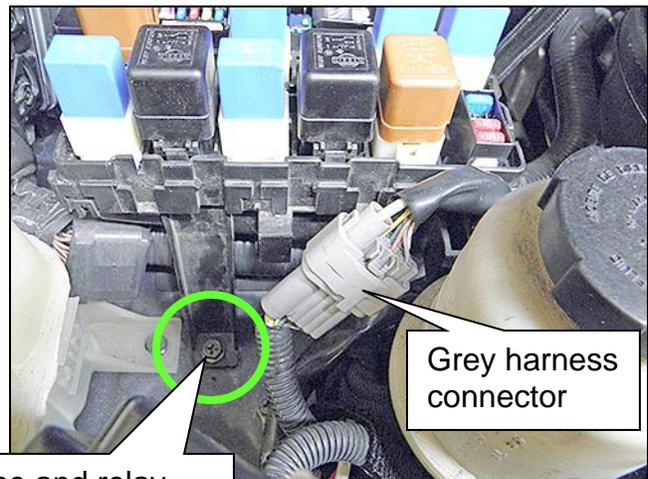

Figure 5
2. Disconnect the grey harness connector shown in (Figure 5) and then unclip it from the fuse and relay box.
- a. Remove the mounting bolt for the fuse and relay box (Figure 5).